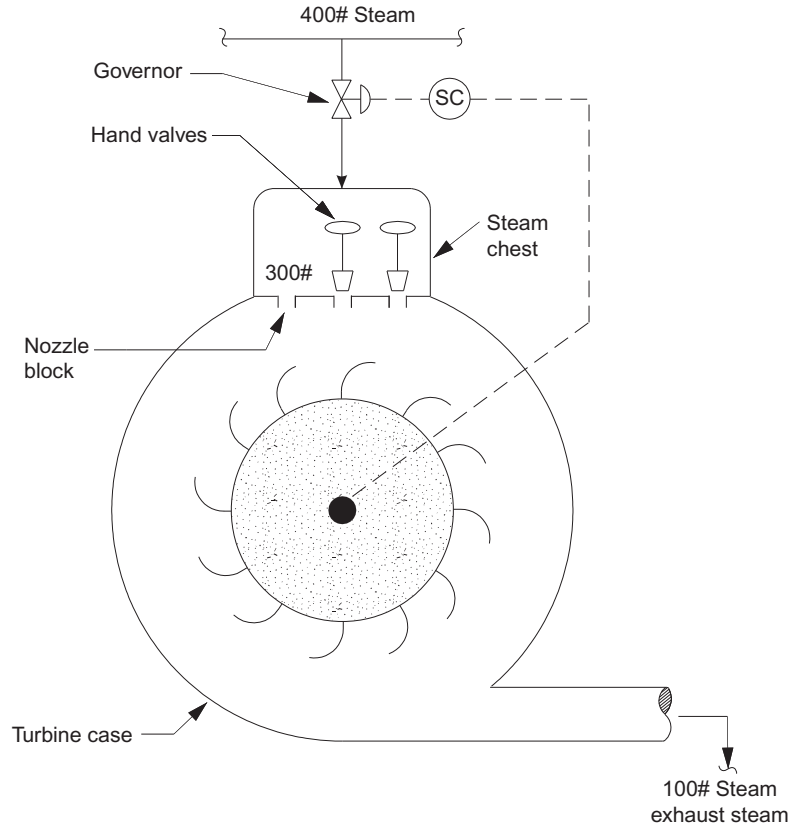

FIG. 48.1 Steam turbine showing hand valves.
- Reduce the turbine speed on the governor until the pump's downstream control valve is running in a mostly open, but still controllable position (reference Fig. 48.1).